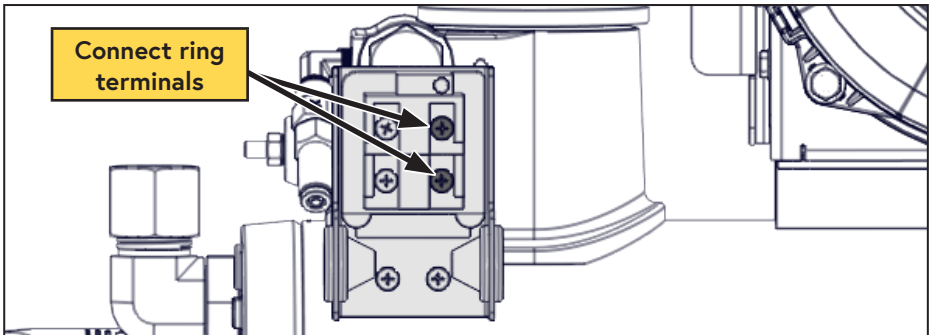

Figure 67 — Connect pressure switch
- Remove the cover from the WHASP Tank pressure switch and connect the 2 ring terminals from the control module to the pressure switch on the WHASP Tank (not polarity dependent) (Figure 67).